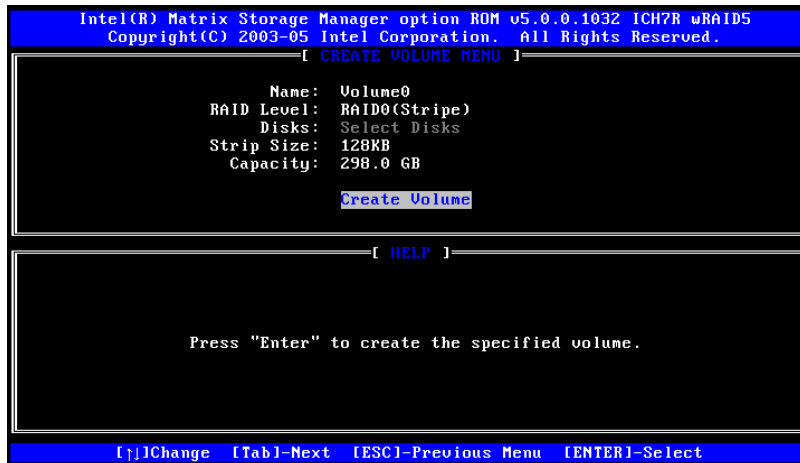

Figure F-6: Create the RAID Volume
Step 6: Create the RAID Volume. Press **ENTER** to create the RAID volume as specified. See Figure F-6.